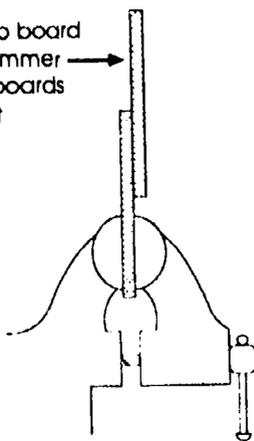

Figure 8. Test 2: place the boards in a vise as shown here.
- Place a fastened pair of boards upright in a vise. Place only one board against the vise jaws (see Figure 8).